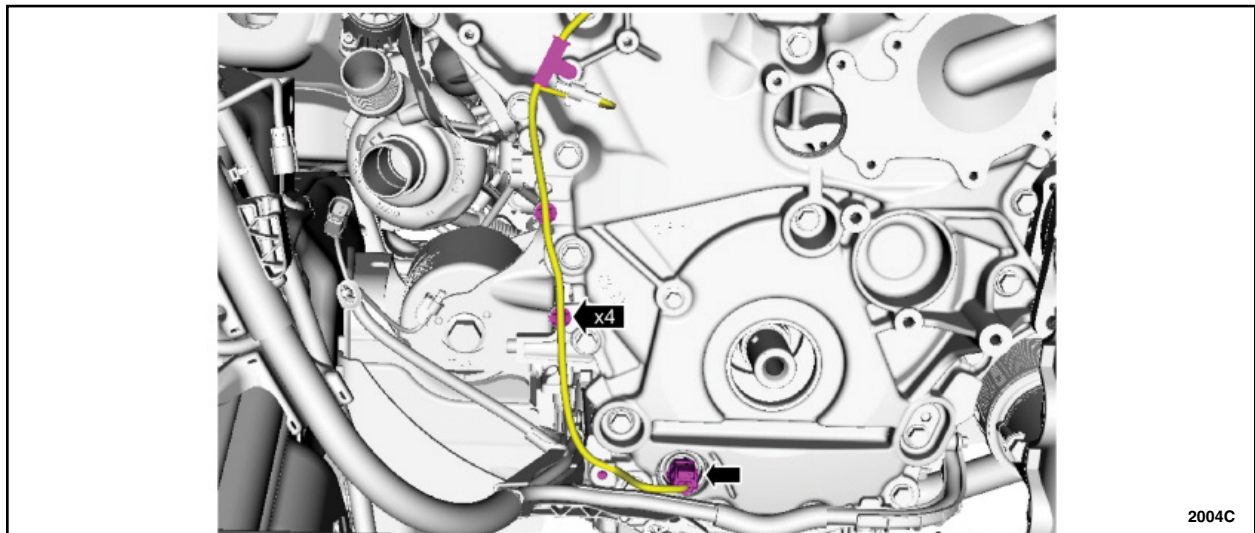

FIGURE 2
20. Disconnect the oil pump electrical connector from the engine and secure to wire harness or coolant tube with a zip tie to prevent movement. See Figure 2.